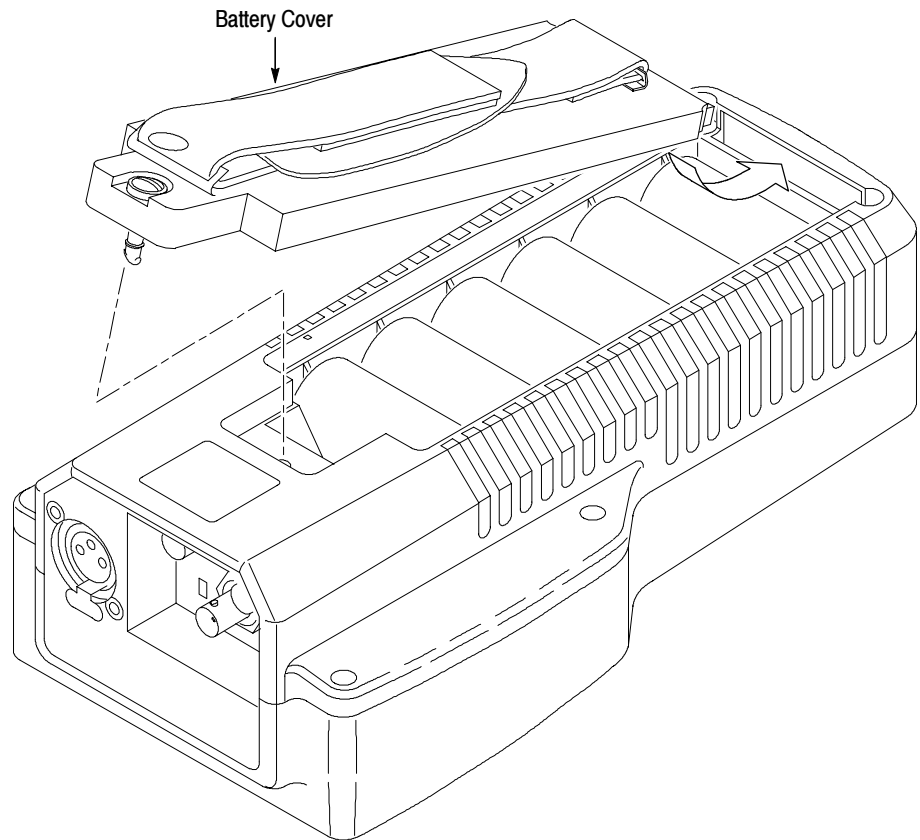

Figure 6-8: Installing the battery cover
1. Place the lower lip of the battery cover into the instrument housing and press the top portion of the cover into the instrument. See Figure 6-8 on page 6-19.